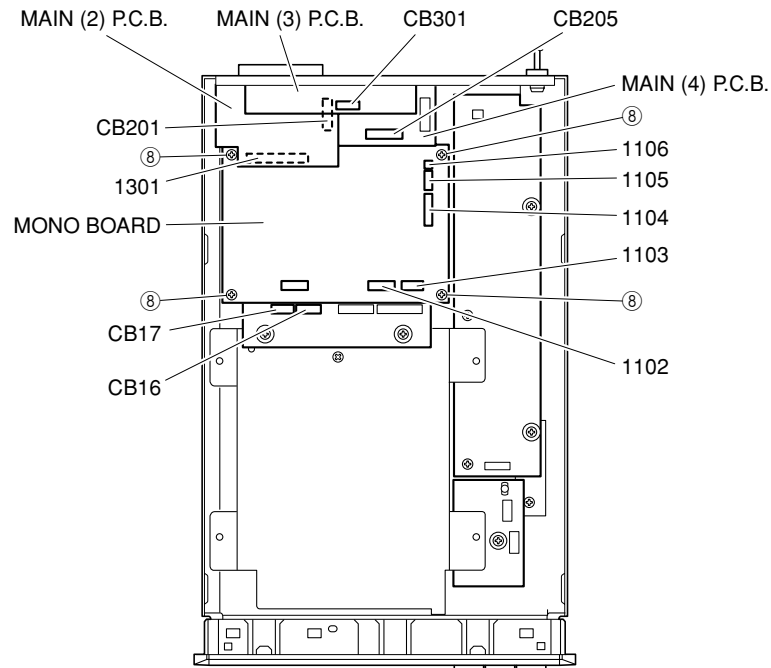
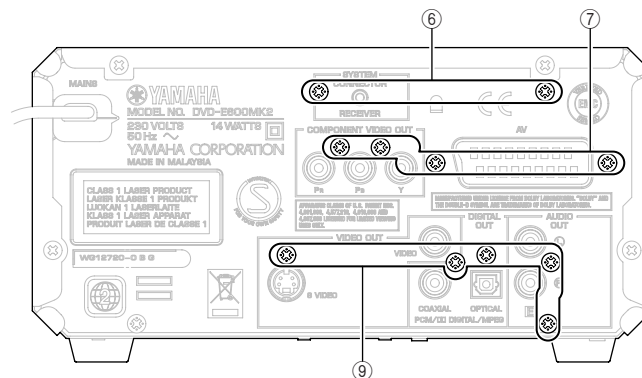

Fig. 3
Fig. 4
- b. Remove a connectors (CB16, CB17). (Fig. 3)
4. Removal of MAIN (3) P.C.B.
- a. Remove 2 screws (⑥). (Fig. 4)
- b. Remove a connector (CB301). (Fig. 3)
- c. Remove the MAIN (3) P.C.B..
- a. Remove 4 screws (⑧). (Fig. 3)
- b. Remove a connectors (1102~1106, 1301). (Fig. 3)
5. Removal of MAIN (2) and MAIN (4) P.C.B.
- a. Remove 4 screws (⑦). (Fig. 4)
- b. Remove a connector (CB205). (Fig. 3)
- c. Remove the MAIN (2) and MAIN (4) P.C.B..
7. Removal of MAIN (5), MAIN (6) P.C.B. and POWER SUPPLY UNIT
- a. Remove 5 screws (9). (Fig. 4)